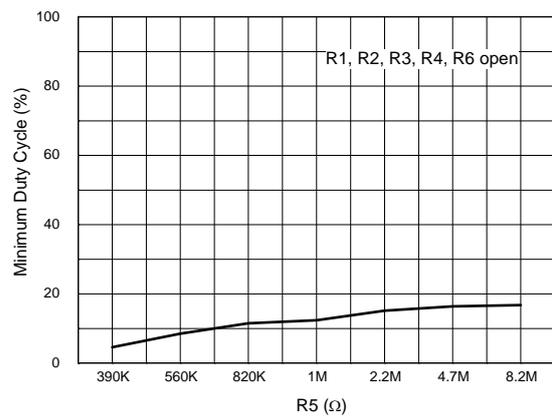

Figure 15
3. Adding R5 can decrease minimum output PWM duty (see Figure 15).